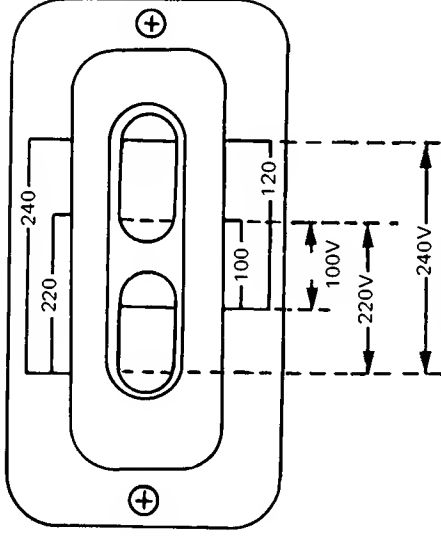

Figure 2. Line Voltage Selection Switch Settings
2. Stand instrument on rear-panel legs and use a blade-type screwdriver to position power selector switches through opening in bottom cover. Figure 2 shows switches set for 120-V operation.